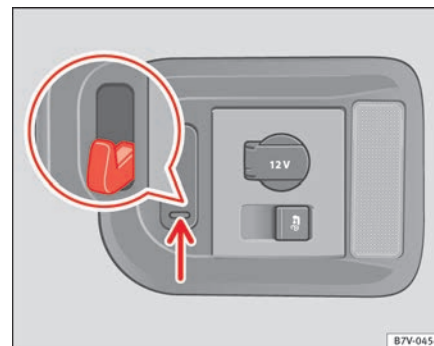

Fig. 99 In the luggage compartment: retaining hooks.
On the right-hand side of the luggage compartment, there are folding retaining hooks ⇒ fig. 99 that can be used to secure light shopping bags.
- Press the retaining hooks down ⇒ fig. 99 (arrow) and fold them.